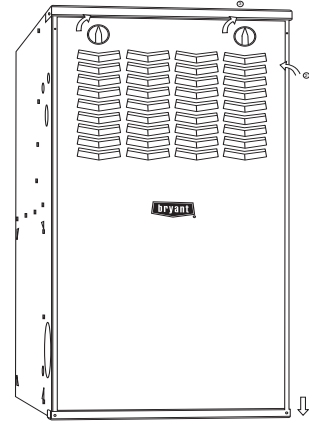

Fig. 9 – Furnace Door Replaced
8. Replace the outer door and tighten the thumbscrew, see Fig. 9.
- Replace the outer furnace door, see Fig. 9.